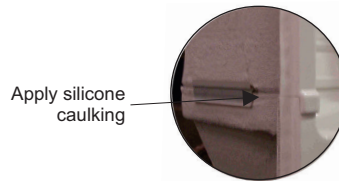

FIGURE 10
5. Lock the system by applying moderate pressure from the upper portion of the mid-section, lock with the back snap first then followed by the two side snaps. When in locked position the two sections should align and fill the gap as shown in Figure 10. If there is a gap at the seam, then unlock and adjust the section to ensure centering to minimize the gap.
7. A bead of mildew resistant bathroom silicone caulking should be applied to the back side of the top and bottom joint to form a moisture barrier. See Figure 10.